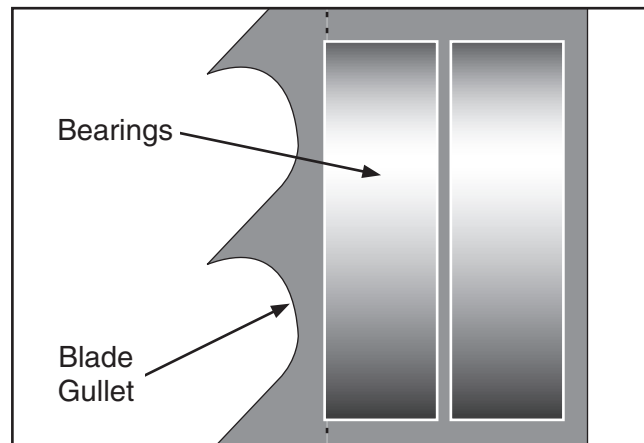

Figure 27. Lateral adjustment of guide bearings.
8. Adjust the blade guide bearings until the edges of the bearings are $\frac{1}{64}$ " (approximately the thickness of four pieces of paper) behind the blade gullets, as illustrated in **Figure 27**.